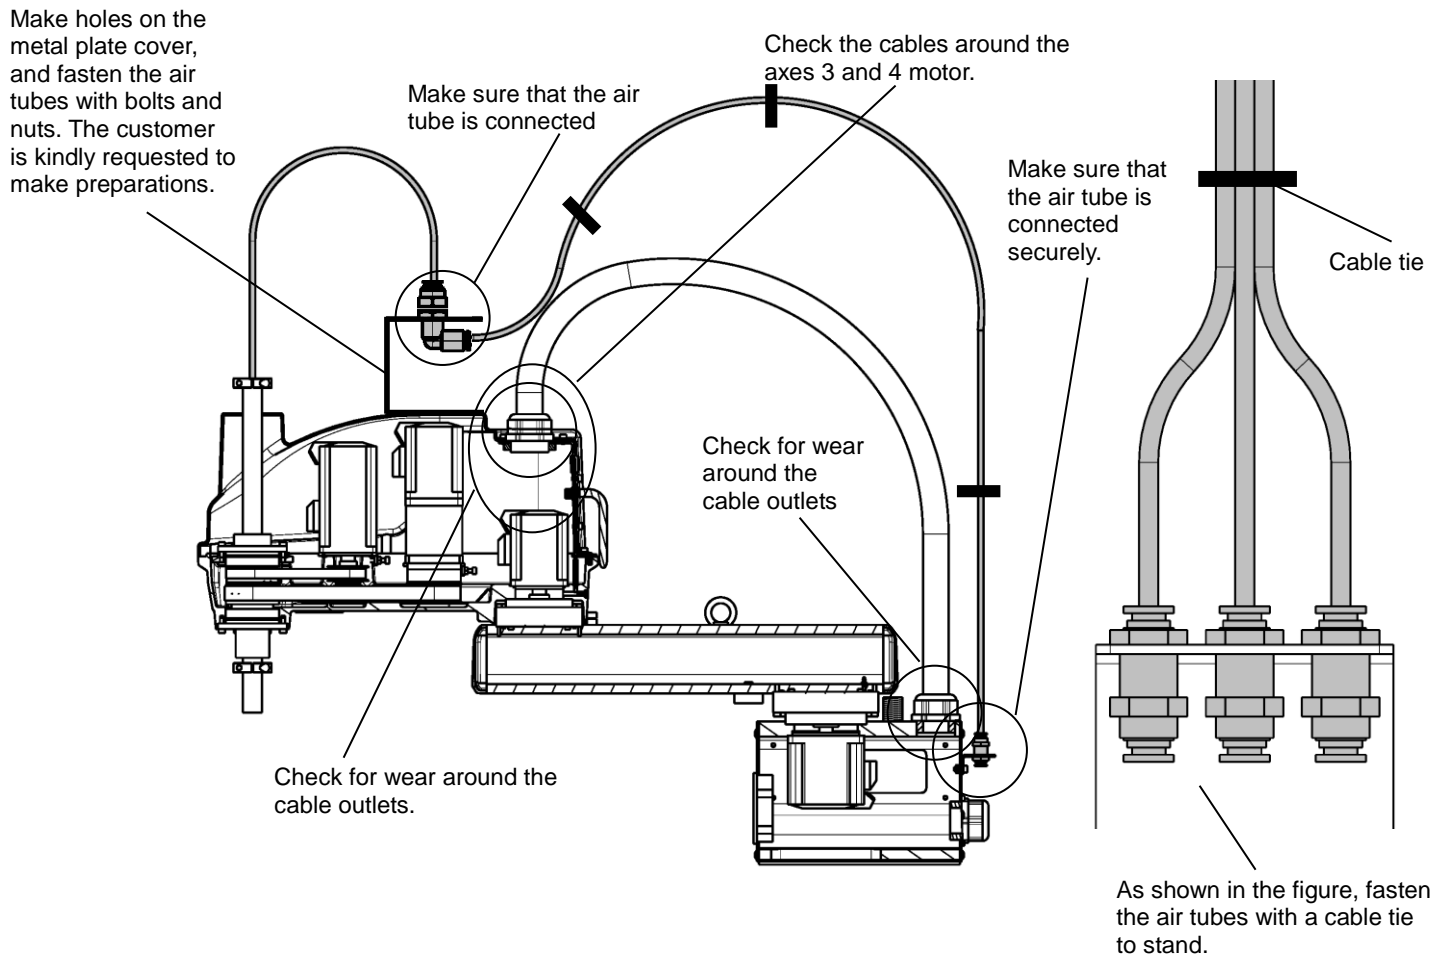

Fig. 3.3 Cable inspection locations (KHL-500, KHL-600, KHL-700)
- Please note that Fig. 3.3 shows a piping example and does not warrant damage to the air tube and its accessories.